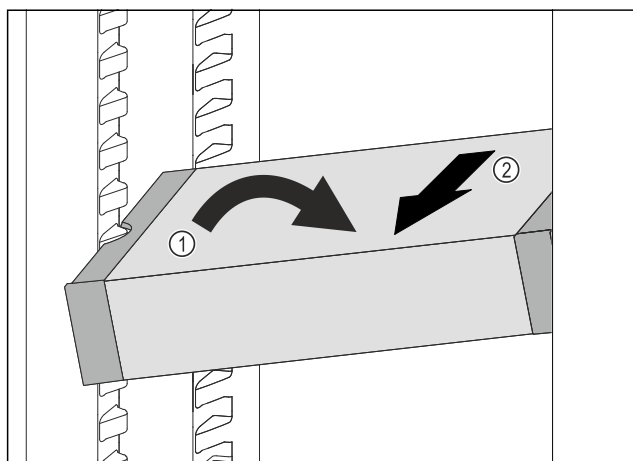

Fig. 157
- Set VarioSafe in refrigerator compartment at an angle. Fig. 157 (1)
- Take VarioSafe out to the front. Fig. 157 (2)